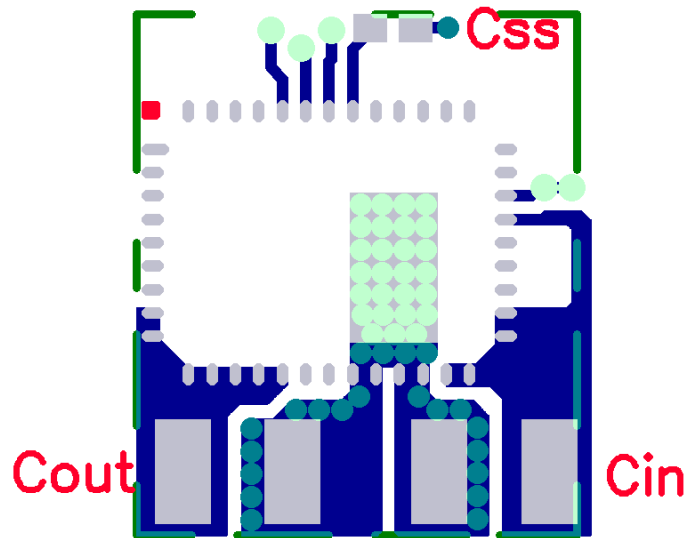

Figure 4: Optimized Layout Recommendations
Figure 4 shows critical components and layer 1 traces of a recommended minimum footprint EN5335QI layout. Alternate ENABLE configurations and other small signal pins need to be connected and routed according to specific customer application. Please see the Gerber files on the Intel website [www.intel.com/enpirion](http://www.intel.com/enpirion) for exact dimensions and other layers. Please refer to Figure 4 while reading the layout recommendations in this section.
**Recommendation 2:** Two PGND pins are dedicated to the input circuit, and two to the output circuit. The slit in Figure 4 separating the input and output GND circuits helps minimize noise coupling between the converter input and output switching loops.
**Recommendation 5:** Multiple small vias (the same size as the thermal via discussed in recommendation 4) should be used to connect ground terminal of the input capacitor and output capacitors to the system ground plane. It is preferred to put these vias under the capacitors along the edge of the GND copper closest to the +V copper. Please see Figure 4. These vias connect the input/output filter capacitors to the GND plane, and help reduce parasitic inductances in the input and output current loops. If the vias cannot be placed under CIN and COUT, then put them just outside the capacitors along the GND slit separating the two components. Do not use thermal reliefs or spokes to connect these vias to the ground plane.
**Recommendation 6:** AVIN is the power supply for the internal small-signal control circuits. It should be connected to the input voltage at a quiet point. In Figure 4 this connection is made at the input capacitor close to the  $V_{IN}$  connection.
**Recommendation 7:** The layer 1 metal under the device must not be more than shown in Figure 4. See the section regarding exposed metal on bottom of package. As with any switch-mode DC-DC converter, try not to run sensitive signal or control lines underneath the converter package on other layers.